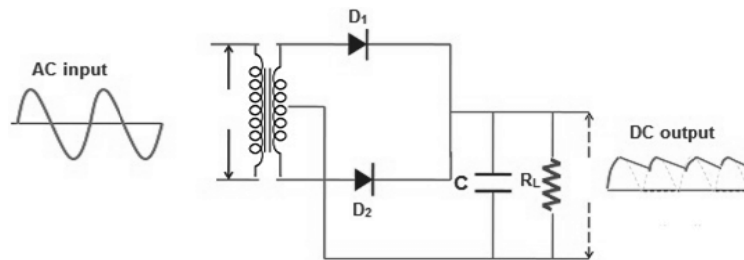

Figure 2: Full Wave rectifier with capacitor filter
1. Connect the Electronic circuit for Full wave rectifier on bread board as shown in Figure 2.